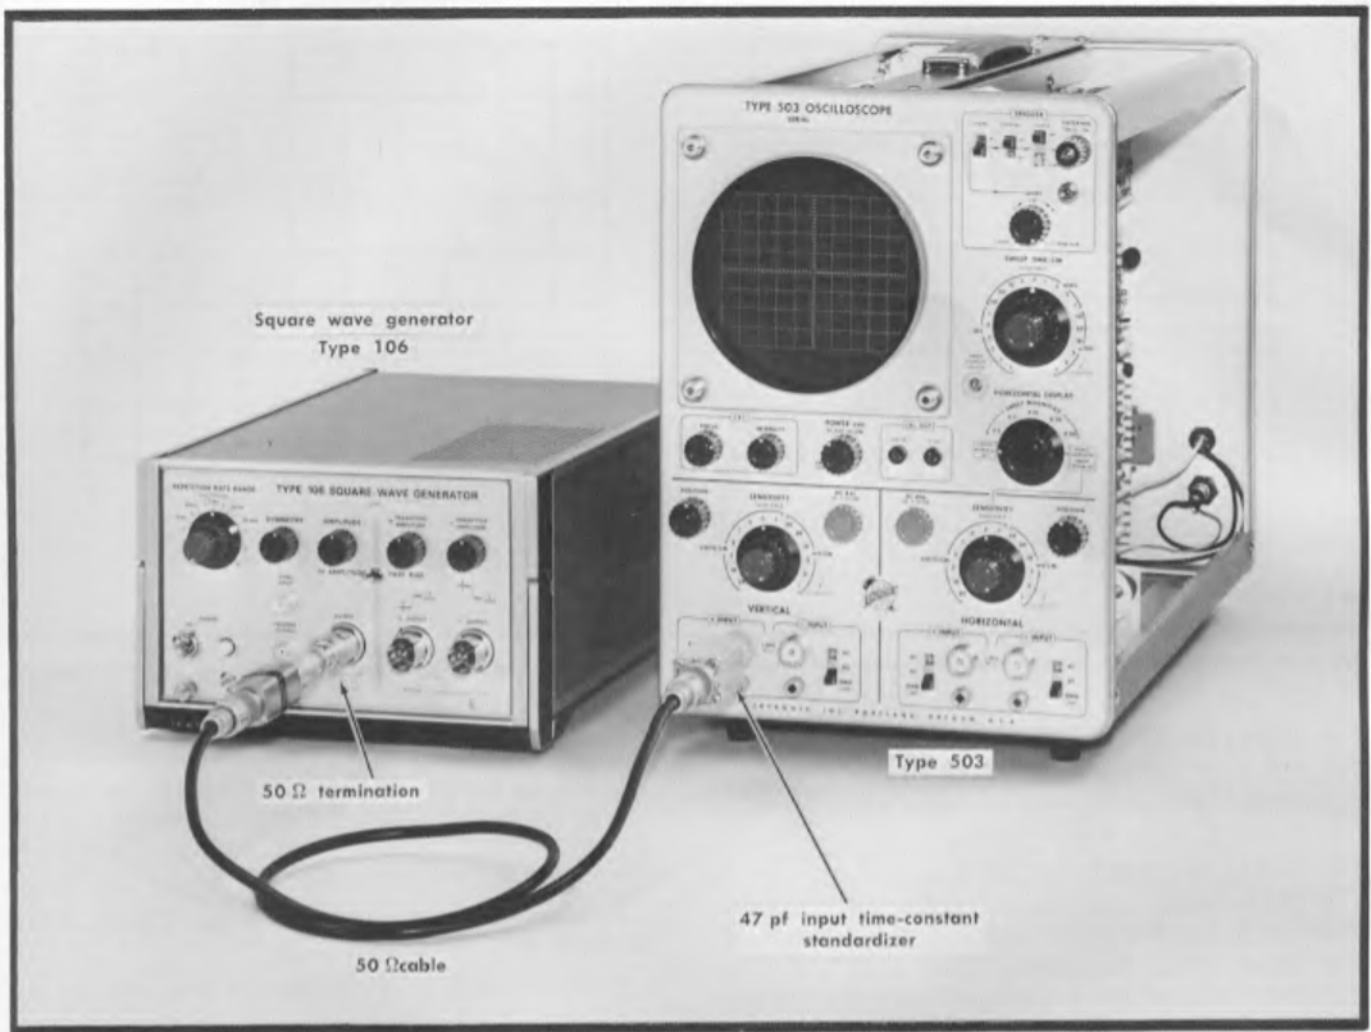

Fig. 6-15. Equipment setup for adjusting Vertical Amplifier attenuator compensation.
29. Adjust Attenuator Compensation—Vertical ❶
- a. The equipment setup is shown in Fig. 6-15.
- b. Set the square-wave generator (item 4 of Recommended Equipment) to supply a 1-kHz square wave.